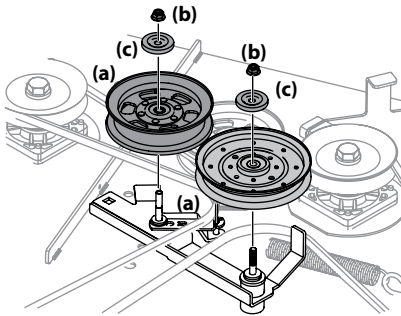

Figure 4-21
3. Remove the two idler pulleys (a) by removing the flange lock nuts (b) and pulley caps (c) that secure them to the deck and the idler arm. See Figure 4-21. Do not lose any of the hardware when removing the flange lock nuts (b).